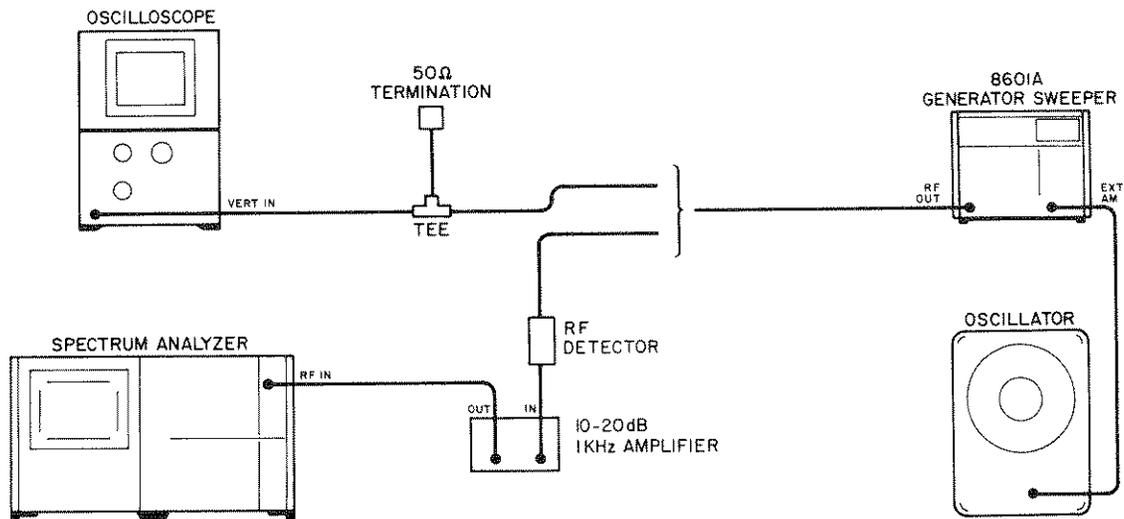

Figure 4-9. Incidental AM Test Setup
1. Connect equipment to oscilloscope as shown in Figure 4-9. Set oscilloscope for internal sweep.